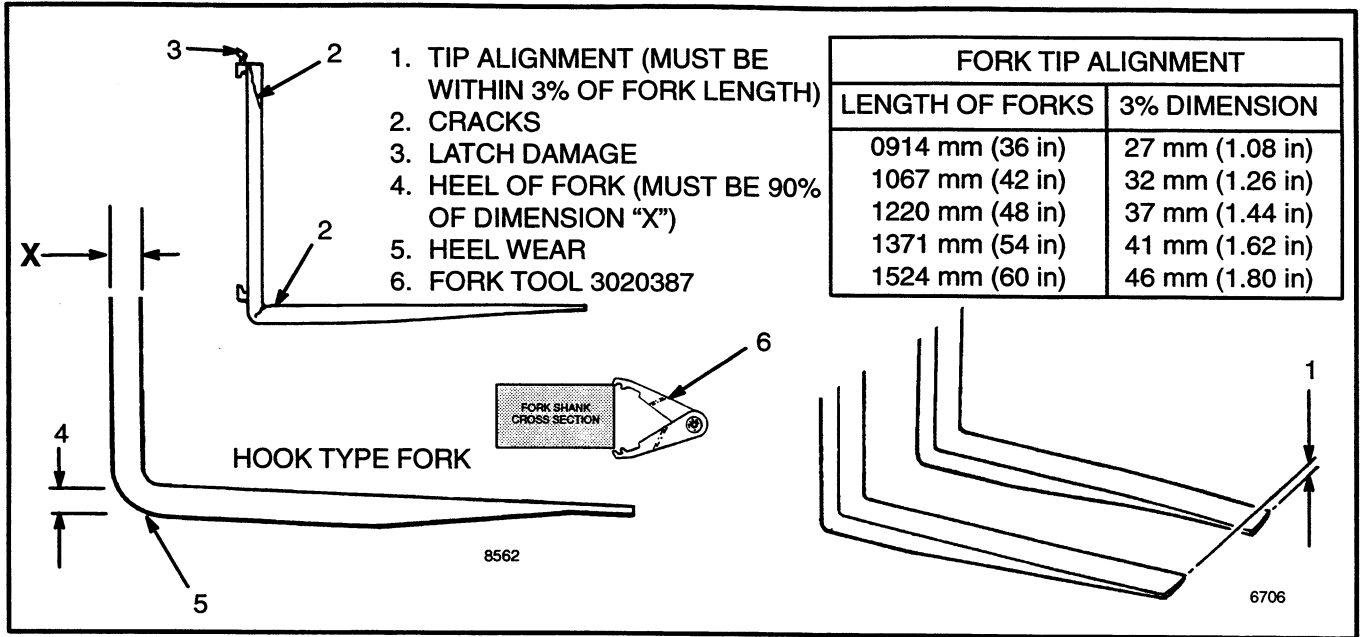

FIGURE 6 – CHECK THE FORKS
3. Inspect the forks for cracks and wear. Check that the fork tips are aligned within 3% of the length of the fork of each other [40 mm (1.6 in) for a 1220 mm (48 in) fork]. Some applications can require closer alignment. Check that the bottom of the fork is not worn (Item 5, FIGURE 6). Check the heel of the fork using fork tool 3020387. The heel of the fork must be 90% of DIMENSION "X", see FIGURE 6.